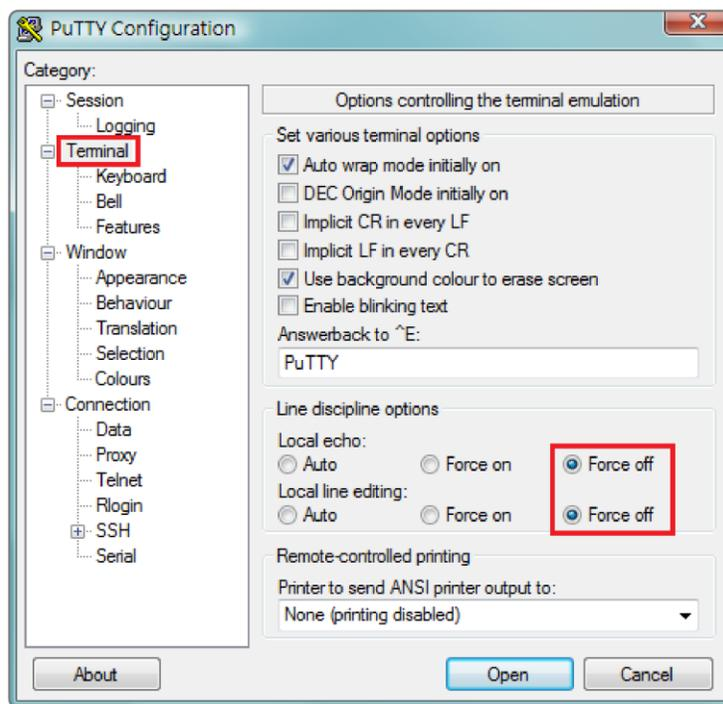

Figure 5. The PuTTY Configuration window.
**Note:** *If using PuTTY to configure SSH access, please configure Line discipline of Terminal to “Force off”, as shown in Figure 5.*